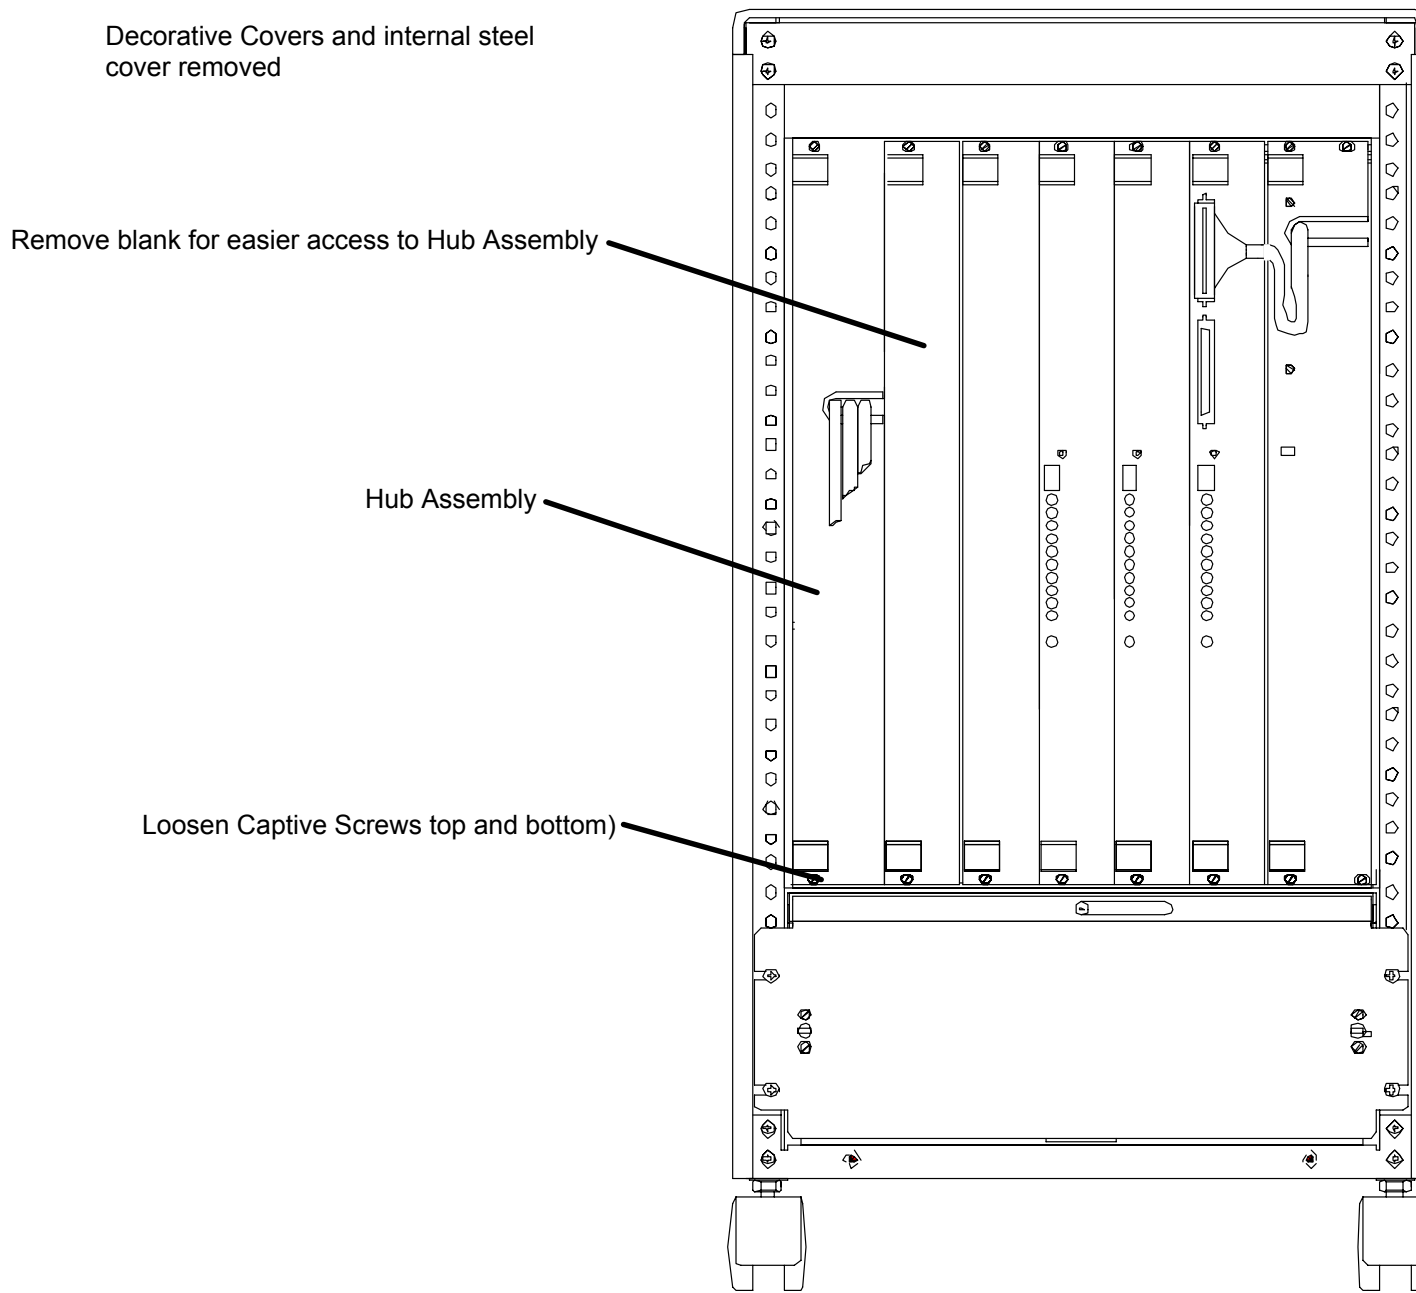

FIGURE 333 Hub Assembly Location
2. Remove the front decorative cover and internal steel cover. Remove the top cover. Refer to the AcQImage Cabinet Covers Removal procedure. The Hub assembly is located on the far left side of the card cage. Refer to Figure 333.